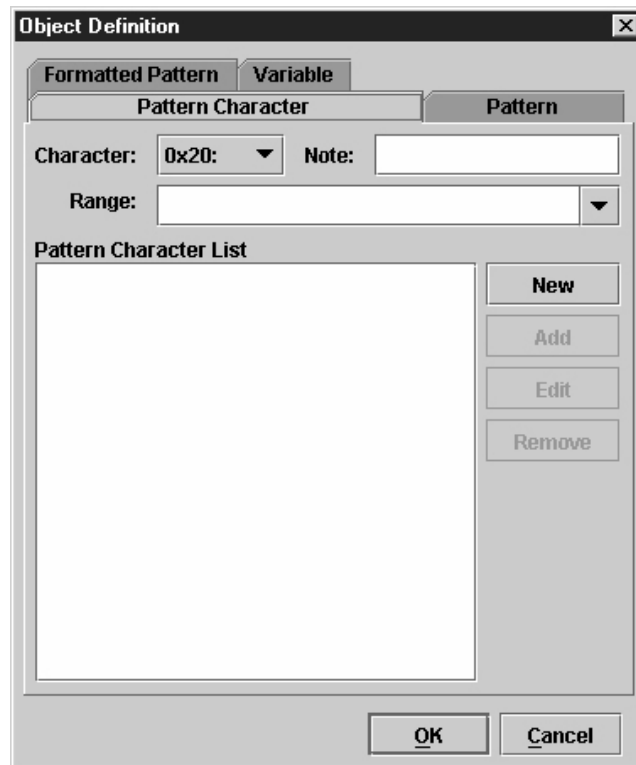

Figure 147. Object Definition: Pattern Character
1. In the CST Manager, click **Patterns / Variables**. See Figure 147. Next, define the required pattern character by selecting it from the list of available characters.